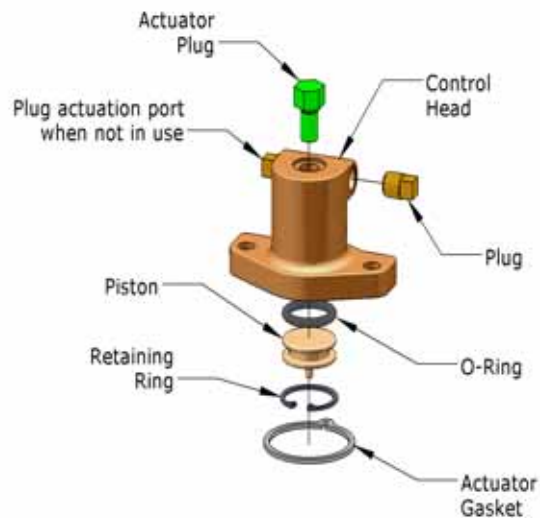

Figure 5-4. Control Head Exploded View
7. Using a screwdriver, push down on the piston through the actuator port. The piston should depress easily and be able to be removed (see Figure 5-4).